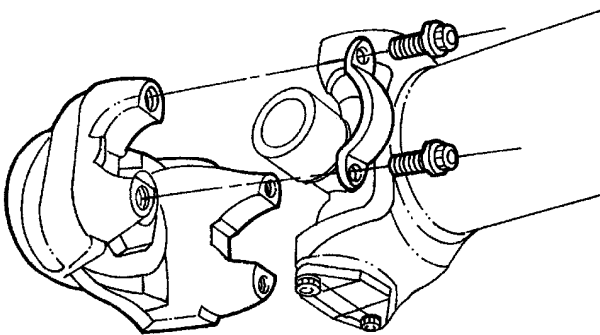

Figure 13 Remove Bolts Securing Bearing Straps
4. Remove the four bolts securing the bearing straps to the transmission, propeller, or axle end yoke (Figure 13).